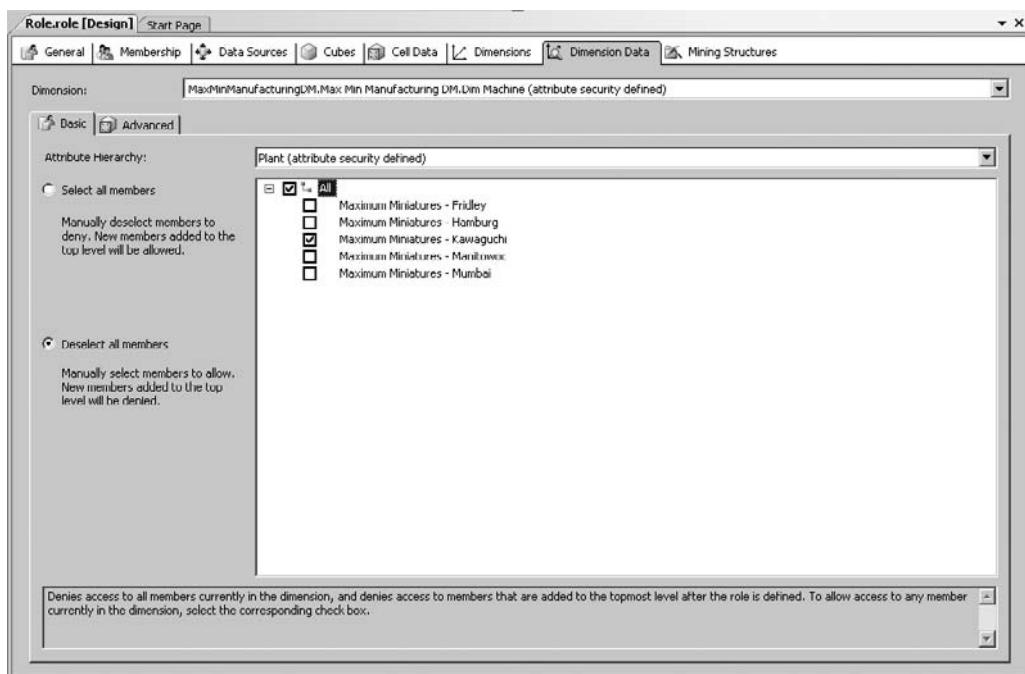

Figure 11-26 The Basic tab of the Dimension Data page of the Role Design tab
15. Select Plant from the Attribute hierarchy drop-down list. Click the Deselect all members radio button on the left side of the tab. Check the Maximum Miniatures—Kawaguchi member. The Basic tab of the Dimension Data tab is shown in Figure 11-26.